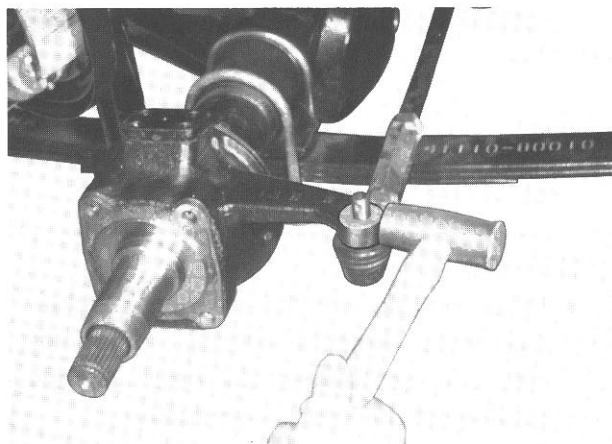

Fig. 17-18
- 4) Remove the tie rod end securing nut, and disconnect the tie rod from the steering knuckle arm. If the stud of tie rod end will not come off easily, tap on the part of the knuckle arm shown in Fig. 17-18 with a hammer to drive it out.